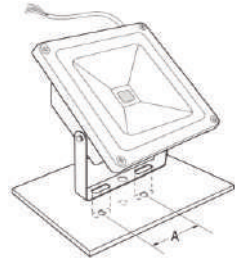

Fig. 1
3. Drill 2 holes, place the bracket over the holes and screw into the wall (fig. 1 & 2). Please ensure installation height (Refer to Specifications table).